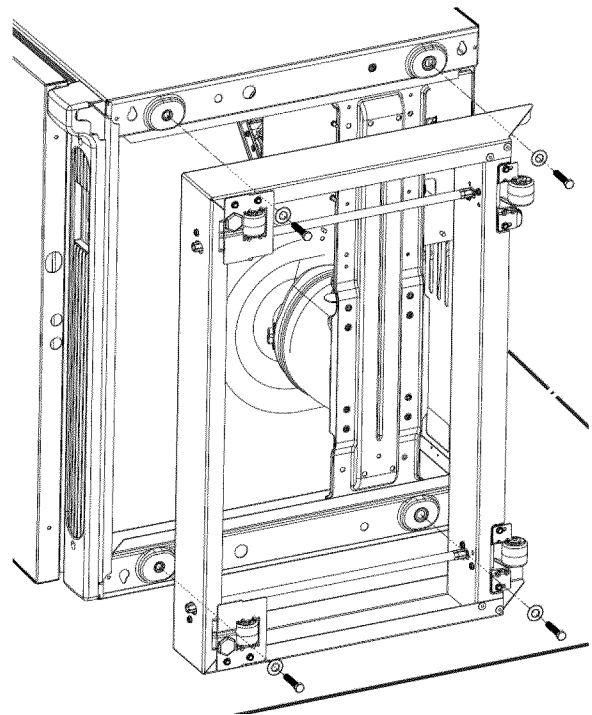

Figure 13
- Repeat the above procedure for the three remaining attachment points. See Figure 13.